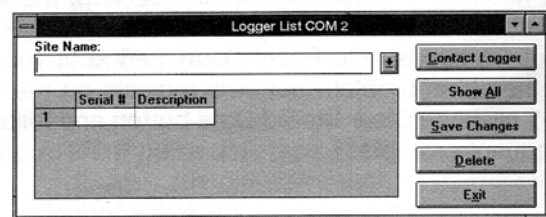

Figure 3
2. Choose the COM port that the loggers are connected to. The Logger List dialog box will appear. Site name and logger serial numbers will be entered in this dialog box. See Figure 3 below.